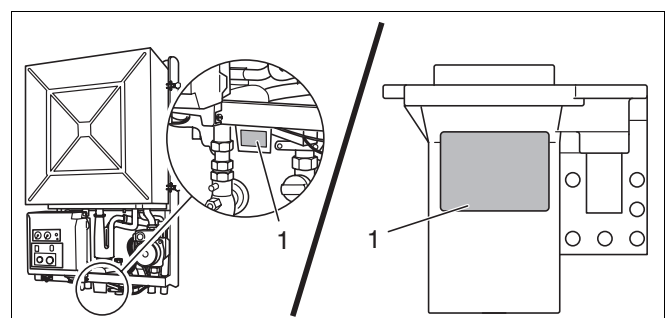

Fig. 74 Place new stickers
- Cover stickers (fig. 74, item 1) with the new stickers (2 pieces, included in conversion kit).